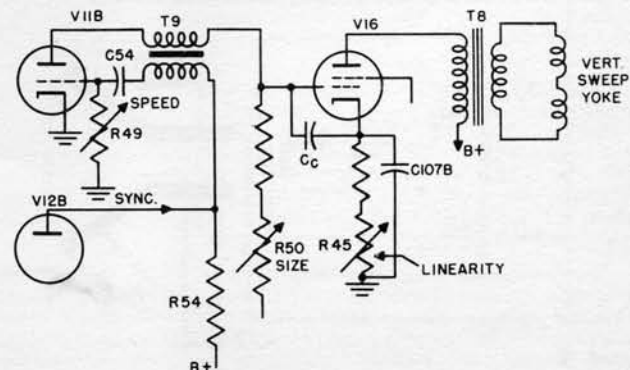

Fig. 7. Vertical Sweep Generator and Output
**9. VERTICAL SWEEP GENERATOR AND OUTPUT (SEE FIGURE 7)**—The vertical sawtooth voltage is generated by a Type 6SN7GT tube, V11B, connected in a blocking oscillator circuit. The output voltage is coupled directly to a type 6L6G vertical sweep output tube, V16, and then to the vertical sweep coils through the impedance matching transformer, T8. Vertical speed is controlled by changing the time constant of the blocking oscillator grid circuit by the potentiometer, R49. Sweep size is changed by the potentiometer, R50, which changes B+ voltage applied to the sawtooth charging capacitor, Cc. Vertical linearity is controlled by a correction voltage developed in the cathode of V16 being fed through capacitors C38 and C45 to the grid of output tube, V16. The amount of correction voltage is varied by the variable cathode resistor, R45.